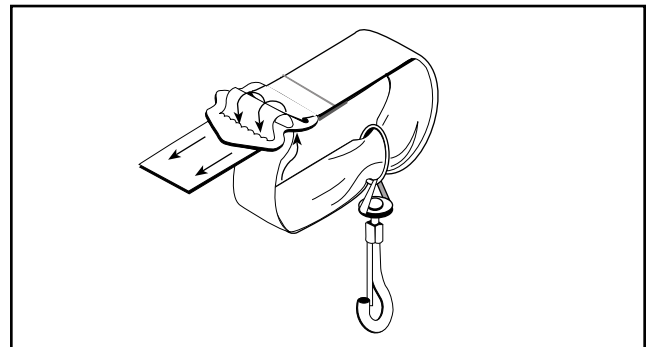

Fig. 4
2. Loop the strap through the buckle (Fig. 4).